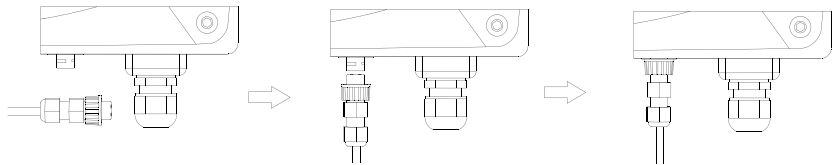

Figure 7.4 Detailed connection
- (1) Connect the communication connector configured for the inverter to the RS485 terminal of the inverter, as shown in Fig 7.4;